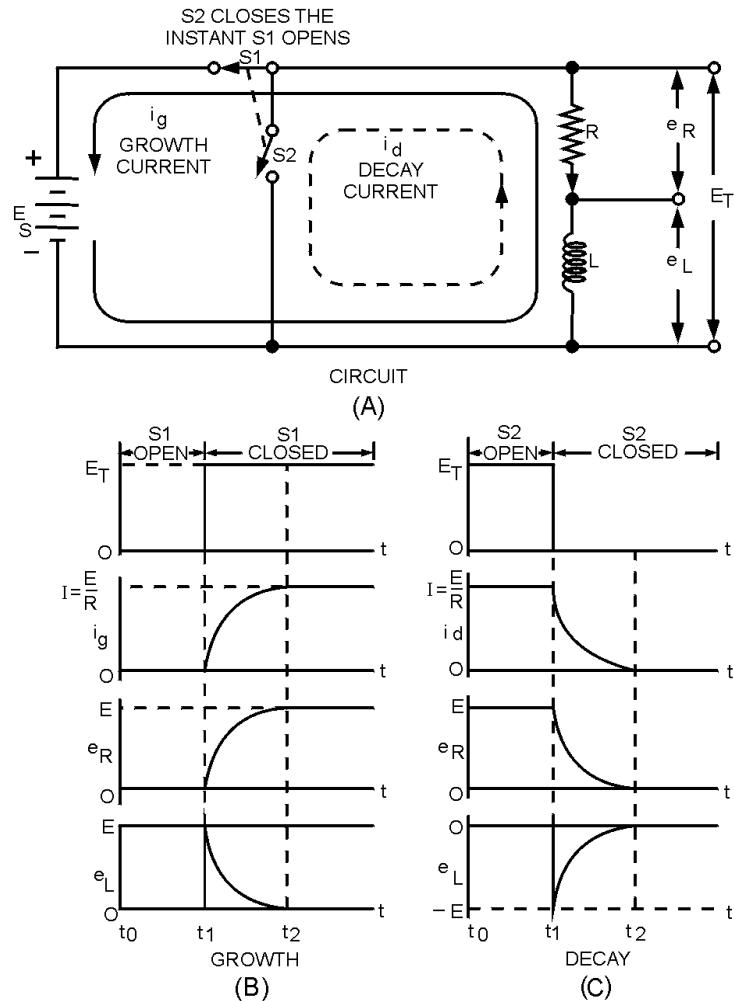

Figure 2-10.—Growth and decay of current in an LR series circuit.
A voltage divider containing resistance and inductance may be connected in a circuit by means of a special switch, as shown in figure 2-10(A). Such a series arrangement is called an LR series circuit.
When switch S_1 is closed (as shown), a voltage E_S appears across the voltage divider. At this instant the current will attempt to increase to its maximum value. However, this instantaneous current change causes coil L to produce a back EMF, which is opposite in polarity and almost equal to the EMF of the source. This back EMF opposes the rapid current change. Figure 2-10(B) shows that at the instant switch S_1 is closed, there is no measurable growth current (i_g), a minimum voltage drop is across resistor R , and maximum voltage exists across inductor L .
growth current (i_g) is increased and consequently e_R is increased. Figure 2-10(B) shows that the voltage across the inductor (e_L) finally becomes zero when the growth current (i_g) stops increasing, while the voltage across the resistor (e_R) builds up to a value equal to the source voltage (E_s).
When the battery switch (S_1) in the LR circuit of figure 2-10(A) is closed, the rate of the current increase is maximum in the inductive circuit. At this instant all the battery voltage is used in overcoming the emf of self-induction which is a maximum because the rate of change of current is maximum. Thus the battery voltage is equal to the drop across the inductor and the voltage across the resistor is zero. As time goes on more of the battery voltage appears across the resistor and less across the inductor. The rate of change of current is less and the induced emf is less. As the steady-state condition of the current is approached, the drop across the inductor approaches zero and all of the battery voltage is "dropped" across the resistance of the circuit.
Figure 2-10(C) shows that when switch S_2 is closed (source voltage E_s removed from the circuit), the flux that has been established around the inductor (L) collapses through the windings. This induces a voltage e_L in the inductor that has a polarity opposite to E_s and is essentially equal to E_s in magnitude. The induced voltage causes decay current (i_d) to flow in resistor R in the same direction in which current was flowing originally (when S_1 was closed). A voltage (e_R) that is initially equal to source voltage (E_s) is developed across R . The voltage across the resistor (e_R) rapidly falls to zero as the voltage across the inductor (e_L) falls to zero due to the collapsing flux.